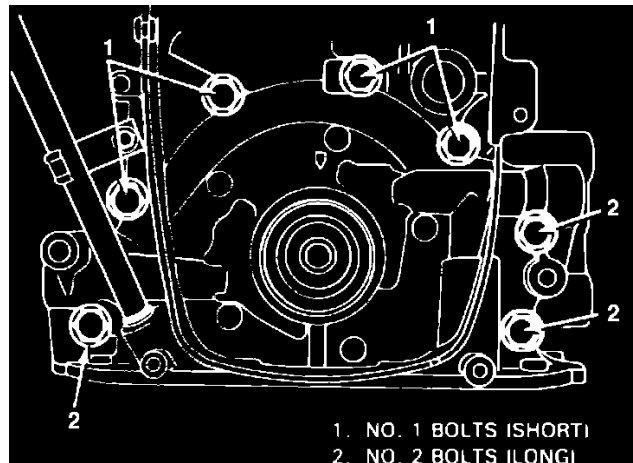

Fig. 33 Oil pump bolt location
3. Install oil pump onto crankshaft and engine block. Note location of mounting bolts, **Fig. 33**. **No. 1 bolts are shorter than No. 2 bolts in length. Install bolts as shown in Fig. 33, and torque bolts to 7-9 ft. lbs.**